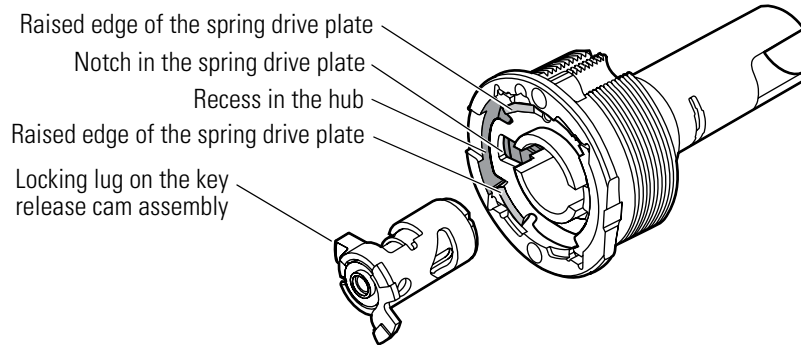

Figure 3.25 Installing the key release cam assembly
1. Insert the key release cam assembly into the sleeve so that the locking lug fits into the notch in the sleeve and spring drive plate. See Figure 3.25.
2. Make sure that the raised edges of the spring drive plate line up with the recess in the hub, as shown in Figure 3.25.